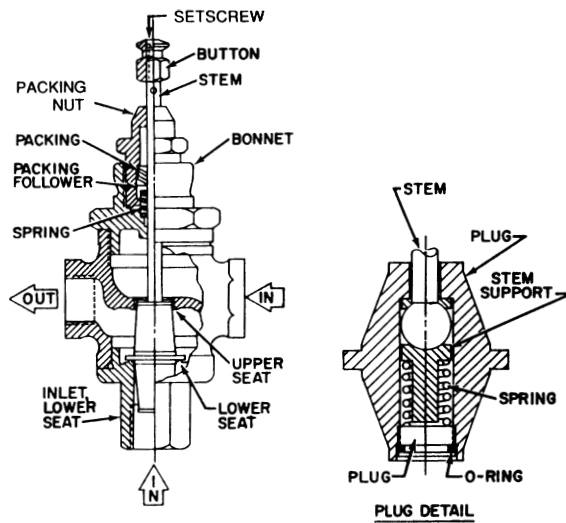

Fig. 12. Three-Way V5013A Threaded Body Valve—Cutaway.
- c. V5013A Threaded Body Valves (Fig. 12). Remove valve from line. Unscrew the inlet (lower port) from body and remove Stem and Plug.
- b. V5013A and F Threaded Body Valves (Fig. 12). Remove the lower Plug and O-ring from Throttling Plug with screwdriver, thereby releasing Stem Support and Spring. To reassemble, tighten lower Plug against Stem Support and back off 1/4 turn.